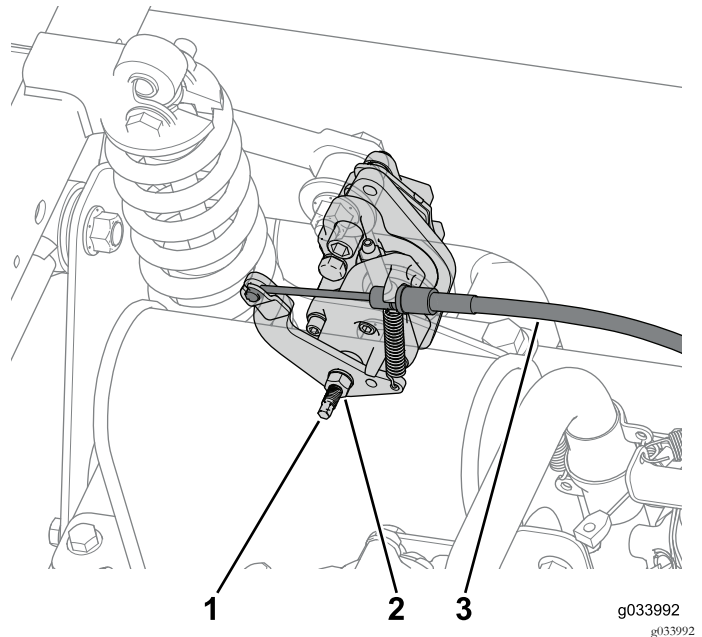

Figure 8
1. Loosen the jam nut and then turn the adjustment screw 2 turns counter clockwise on both rear-brake calipers (Figure 8).
2. Disconnect the parking-brake cable from both rear-brake calipers (Figure 8).